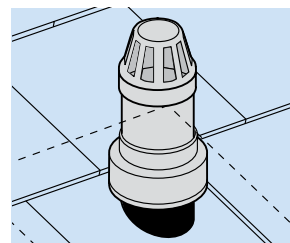

Fig. 64: Vent cowl 150
- Slide 131 Weathering Apron over stack and solvent-weld in position. Replace vent cowl and solvent-weld into position (Fig. 64).